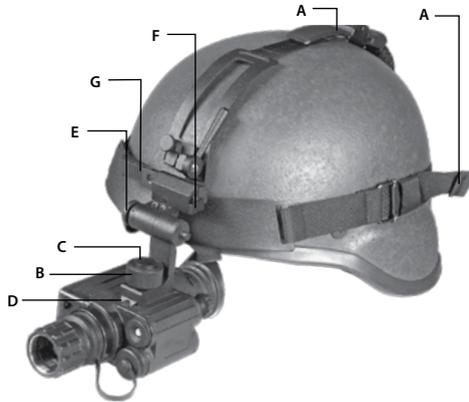

FIGURE 3-3. MOUNTING THE SPARK TO A HELMET
1. Attach the mount to the helmet as shown in Figure 3-3.
2. Adjust and tighten the straps (A).
3. Loosen the screw (B). With the button (C) pushed down, insert the Spark rail into the guide (D) of the helmet mount bracket. Tighten the screw (B).
5. Push the button (F) and move the unit along the slide-rail (G) until the most comfortable position is reached.
6. To adjust the unit for comfort, loosen the screw (B) and move the unit along the guide (D).
7. To remove the Spark and turn it around, push the button down (E) and lift the unit up until it reaches the top position.
8. Push the same button (E) to lower the NYX-14 into the proper viewing position.
In Figure 3-3, the Spark is shown in the correct position for the left eye. To readjust the Spark for the left eye, reverse its positioning and reinstall it on the helmet mount bracket (see Figure 3-3). Use the second unit rail located on the opposite side of the unit. Push the button (F) and move the unit along the slide-rail (G) until the most comfortable position is reached.